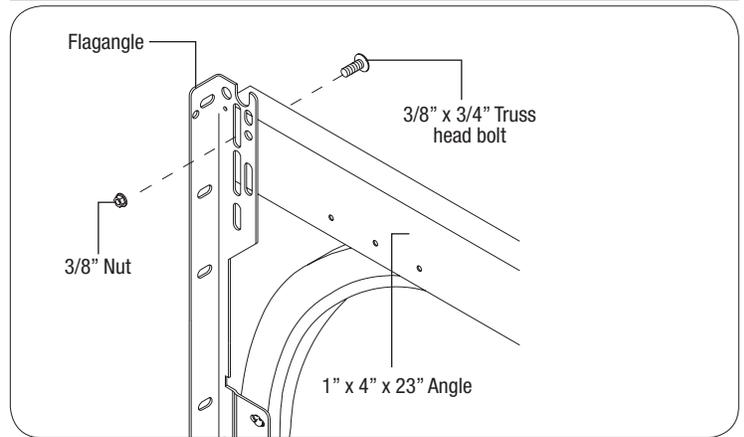

FIG. 7.1
Secure 1" x 4" x 23" horizontal angle to the flag angle with (1) 3/8 x 3/4" truss head bolt and nut, as shown in FIG. 7.1.